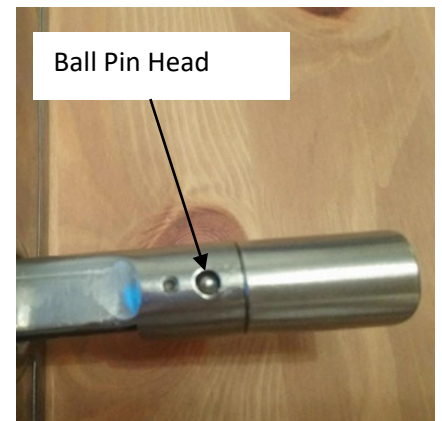

Figure 3
- Once the latch bolt is in the desired position, align the ball pin head with the opening on the latch (pictured right in figure 3)